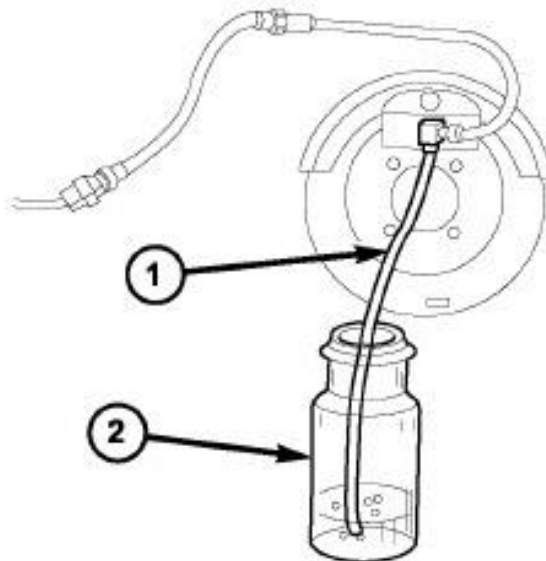

Figure 8 – Bleed Hose Immersed in Container of Brake Fluid
11. Attach one end of the bleed hose (1) to the bleed screw and insert the opposite end into a glass container (2) partially filled with brake fluid. Be sure the end of the bleed hose is immersed in fluid (Figure 8).